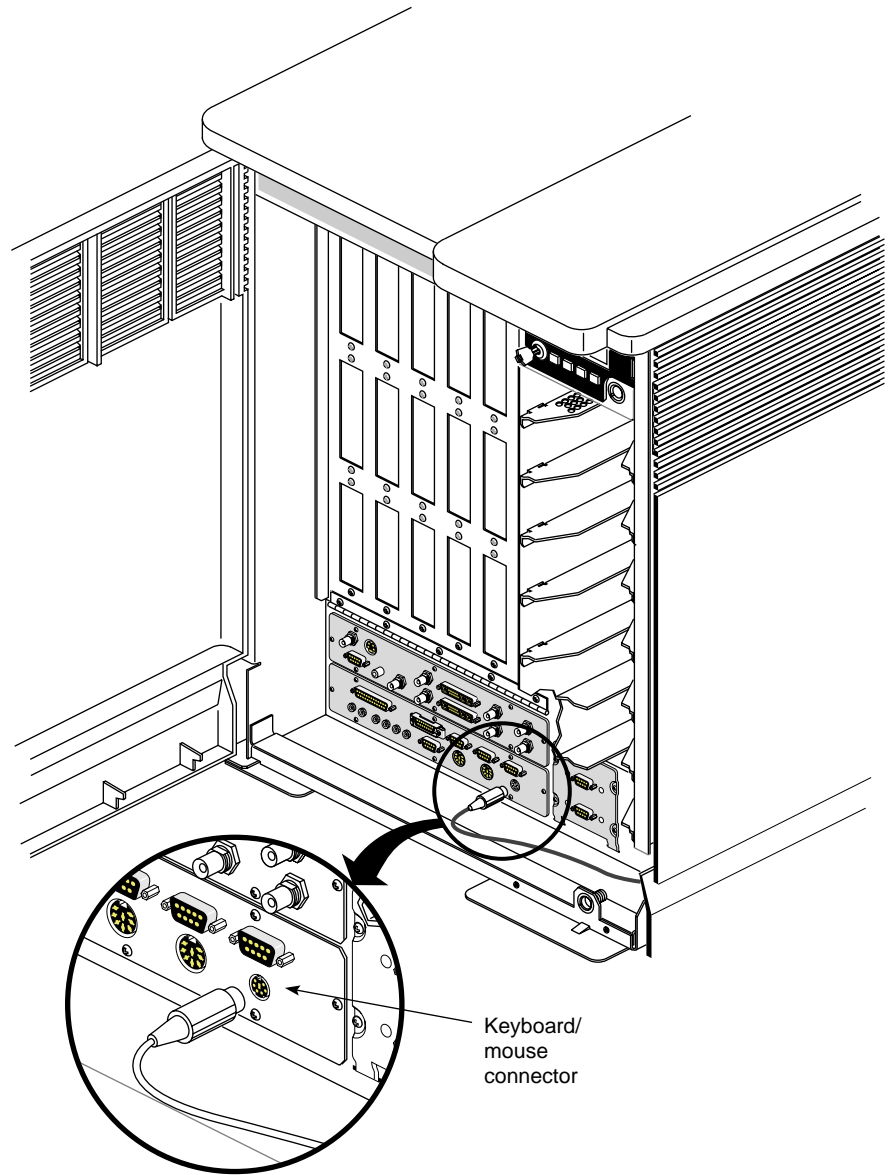

Figure 3-7 Keyboard Connection
1. Insert the connector on the cable into the round 6-pin mini-DIN connector on the I/O panel, as shown in Figure 3-7.